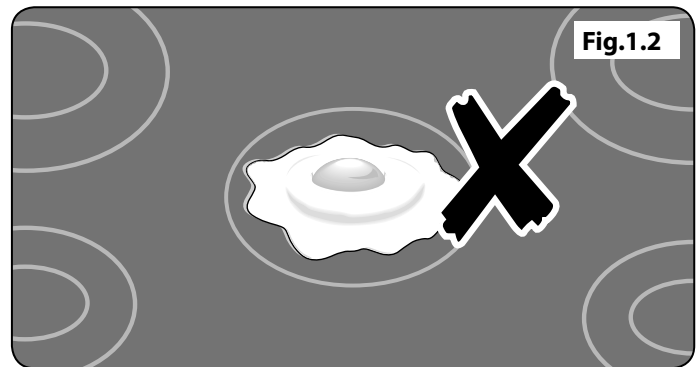

Fig.1.2
- ⚠ **NEVER** cook directly on the hob surface (Fig.1.2).